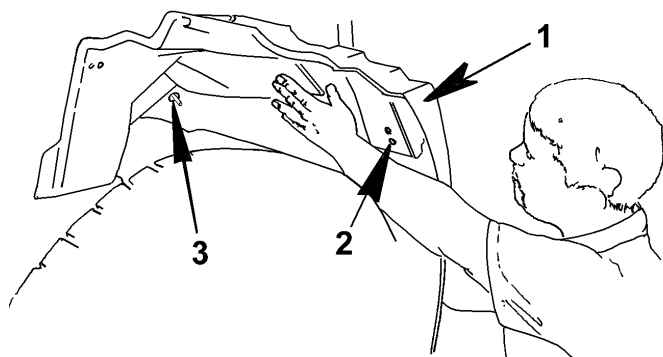

Figure 45 Fender Extension Alignment
5. Remove the fender extension (Figure 45).
1. Align the fender extension mounting hole on the mounting stud (Figure 45, Item 3), install mounting nut. Hand tighten.